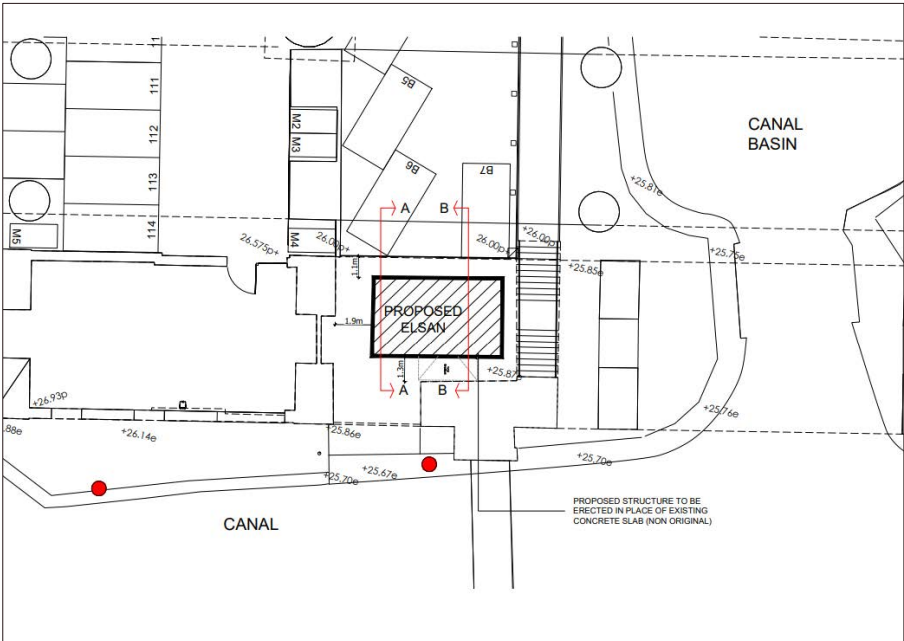

Figure 1: ELSAN and Bin Store Plan
- An external refuse store (3m (L) x 2.5m (W) x 2m (H)) is provided to the western elevation of the ELSAN (see Figure 1).